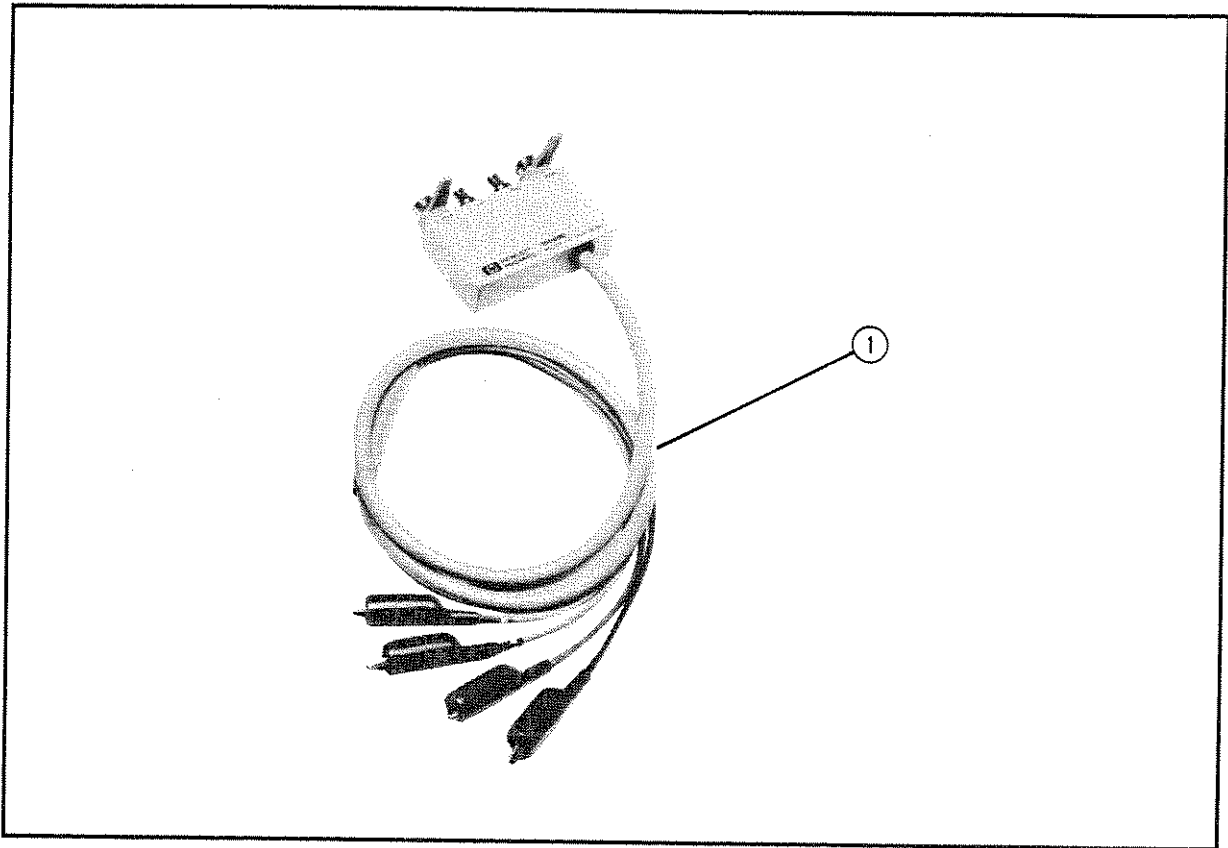

Figure 2-4. HP 16089D Product Overview
2. Verify that the shipping container contains everything shown in Figure 2-1, Figure 2-2, Figure 2-3, and Figure 2-4 and listed in Table 2-1, Table 2-2, Table 2-3, and Table 2-4.
1 Operation and Service Manual is not shown in Figure 2-4.